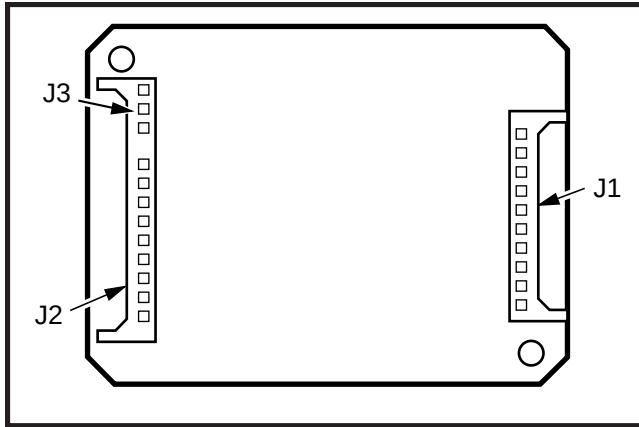

FIGURE 6-13
- 5) Mate IMDU connectors **J1**, **J2**, and **J3** with PIOUS or PIOUS connectors **P1**, **P2**, and **P3** (refer to Figure 6-13).